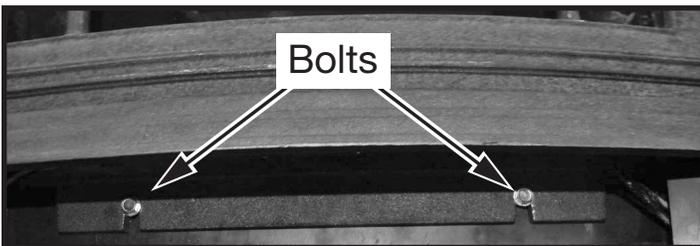
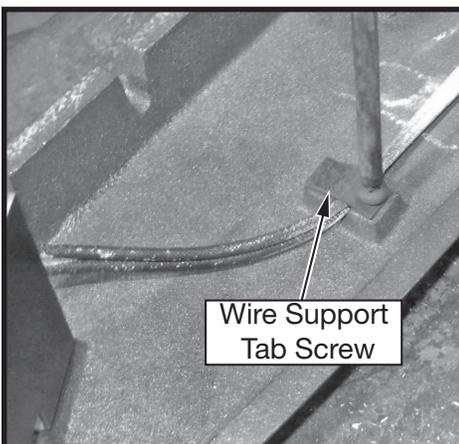

Figure 18: Bolts securing ash lip to firebox.
Figure 19: Wire Guides.
3. Remove the lower front cover. Loosen the two bolts that secure the ash lip to the firebox (Figure 18), carefully lift up the ash lip and remove from the firebox and unscrew the wire support tabs (Figure 19) noting how the wire are held in place.